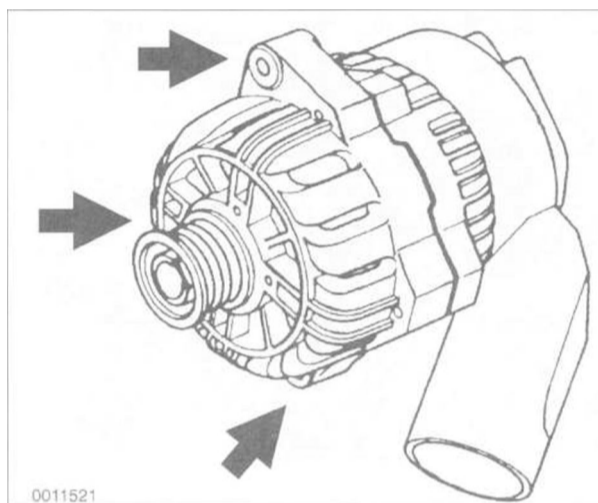

Fig. 4. Alternator mounting bolts **larrowsi**. Alternator from M60 engine shown, other alternators are similar.
7. Remove upper adjustment mounting bolt and lower bolt(s) from alternator. Protect front of radiator with heavy cardboard or sheet metal. See Fig. 4.